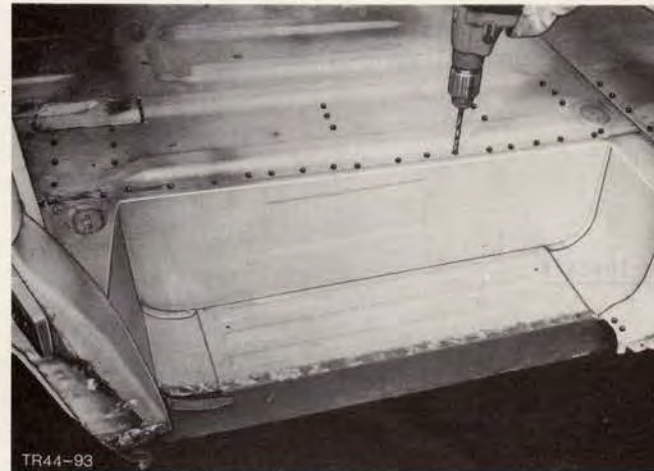

Fig.135. Drill out spot welds on entrance step
1. Drill out all spot welds on entrance step, Fig.135.